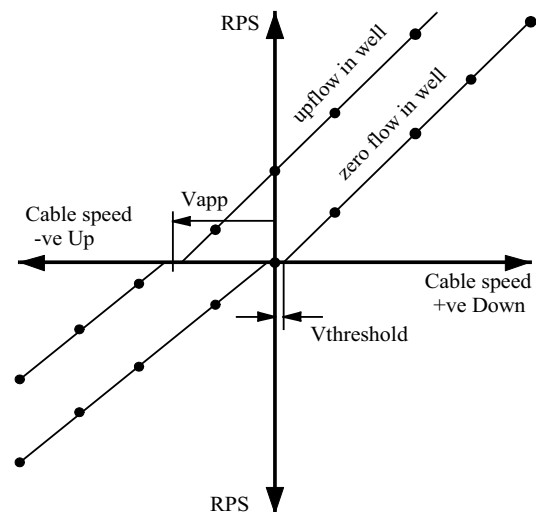

Figure 4.1 Flowmeter Fluid Velocity Response
- 1 Since the tool response (*Figure 4.1*) is closely linear and any zero offset will be negligible, extend the best straight line through the plotted readings until it cuts the cable speed axis. The cable speed reading here will be V_{app} .